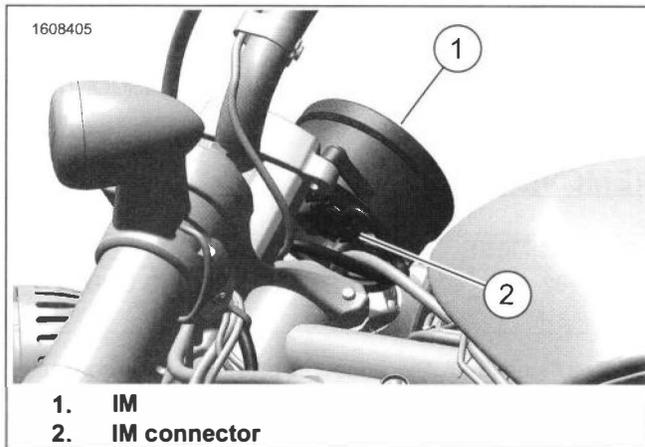
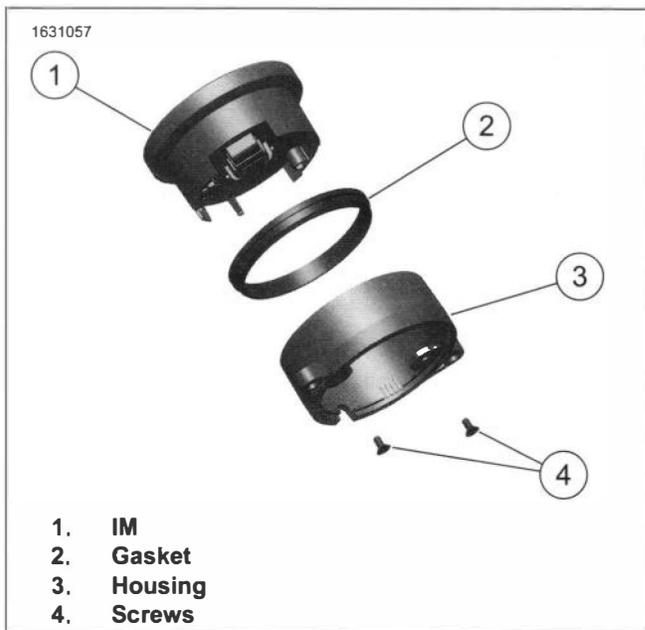

Figure 8-35. IM Connector
Figure 8-36. IM Connector
2. See Figure 8-35. Remove IM assembly (1).
- a. Disconnect IM connector (2).
3. See Figure 8-36. Remove IM from housing (1).
- a. Remove screws (4).
1. See Figure 8-36. Install IM (1) into housing (3).
2. Install screws (4). Tighten.
3. See Figure 8-35. Connect the IM connector (2).